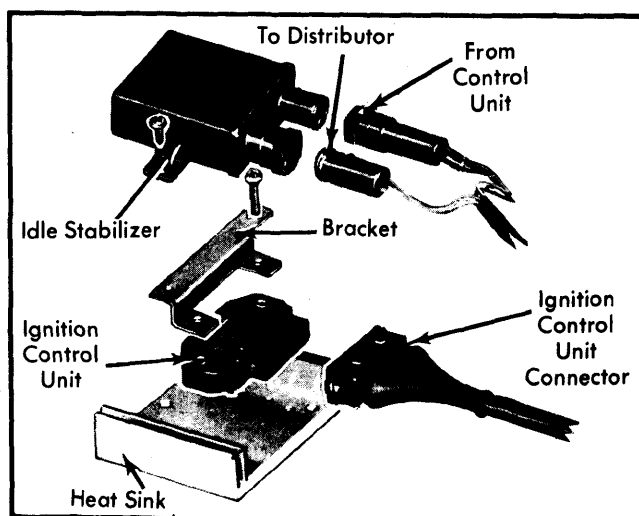

Fig. 3 Idle Stabilizer and Ignition Control Unit
- 1) If engine will not start, check idle stabilizer first. See Fig. 3. Remove both connectors from idle stabilizer and connect them together. This by-passes the idle stabilizer connecting the igni-